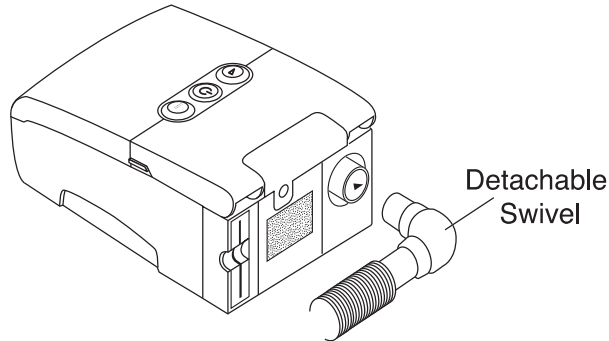

FIGURE 3–2 CONNECTING THE FLEXIBLE TUBING
1. Connect the flexible tubing to the air outlet on the back of the device, as shown in Figure 3–2. You can use the optional, detachable swivel that is provided with your device and already attached to the tubing (shown in Figure 3–2), or you can remove the swivel and connect the tubing directly to the air outlet.